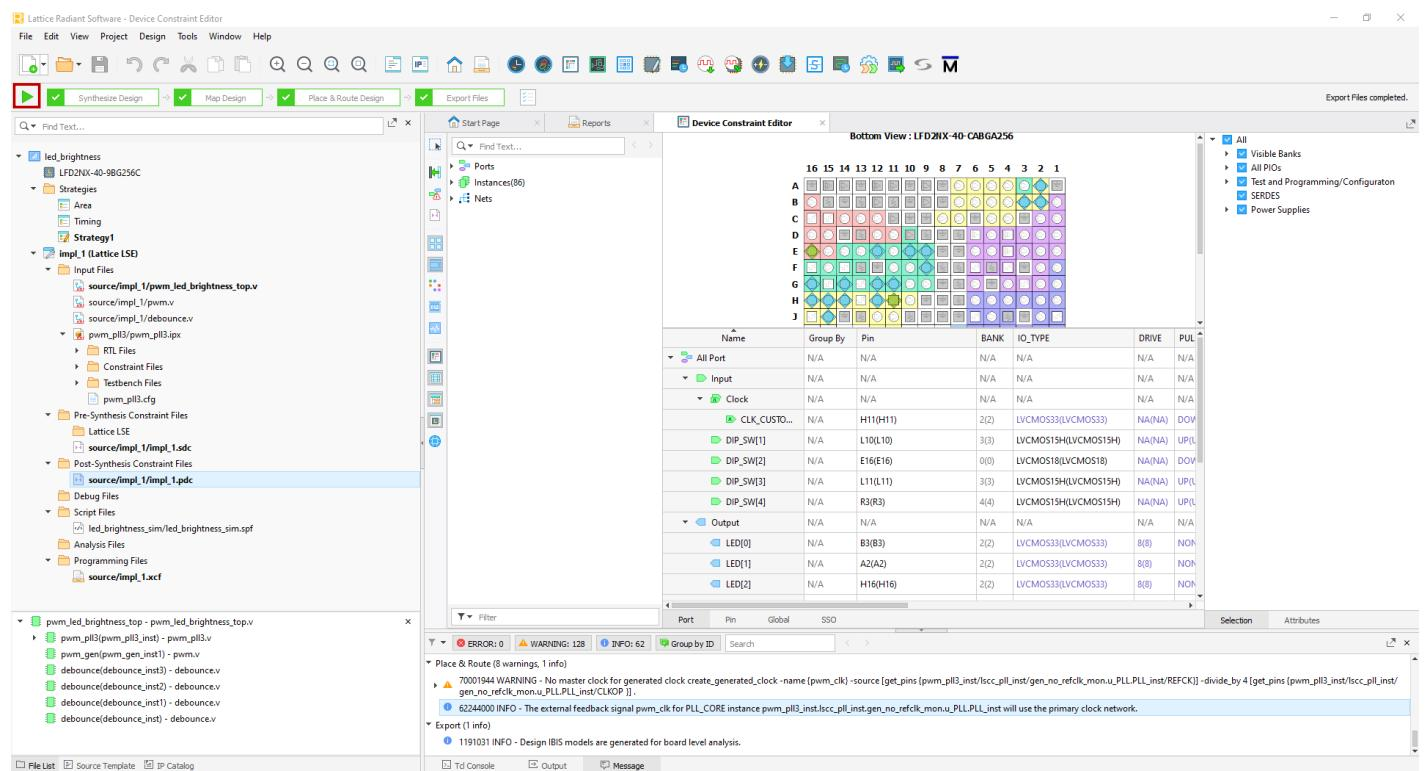

Figure 14: Compiling the Design
15. Compile the design by clicking on the **Run All** arrow, see **Figure 14**.